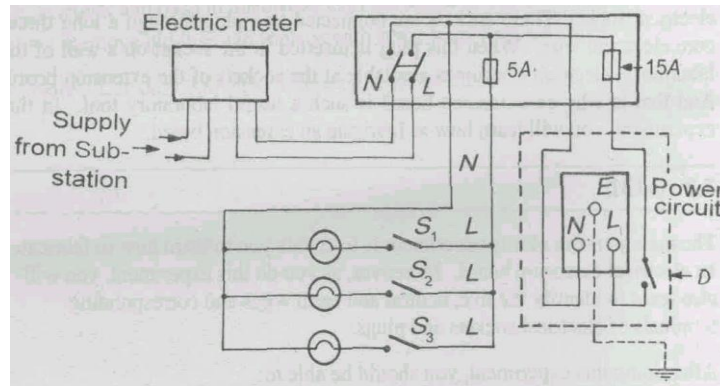

Fig.7.1 A typical laboratory wiring system
Fig.7.1 shows a typical laboratory wiring. Some of its salient features are:
- Although neutral wire of the circuit is earthed at the electric substation, for extra safety, the power circuit (Fig.7.1) contains an additional earth wire  $E$ .